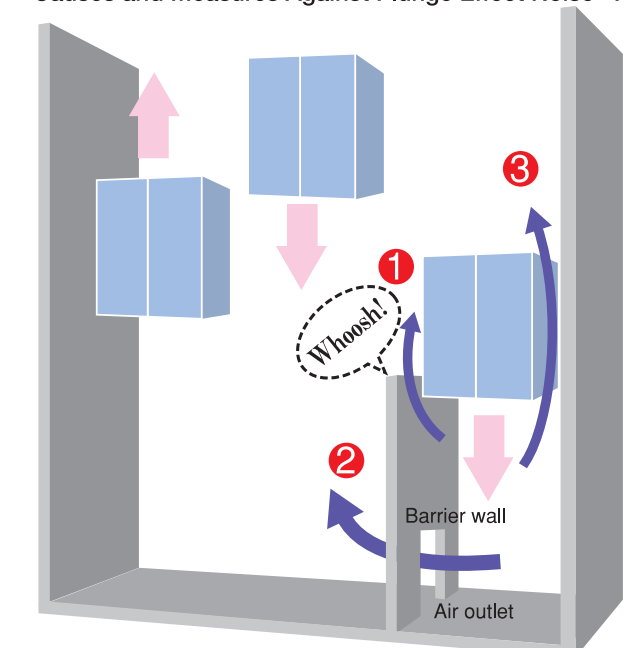

Figure 4.
- 3 If you cannot create an air outlet, then the shaft area must be increased 1.4-fold, as with measures against wind shear. Increasing the shaft area in a staggered shaft configuration improves the airflow in this area (fig. 4). However, there is no need for measures to prevent plunge-effect noise for a barrier walls or staggered shafts if the elevator's rated speed is 120m/min or less.